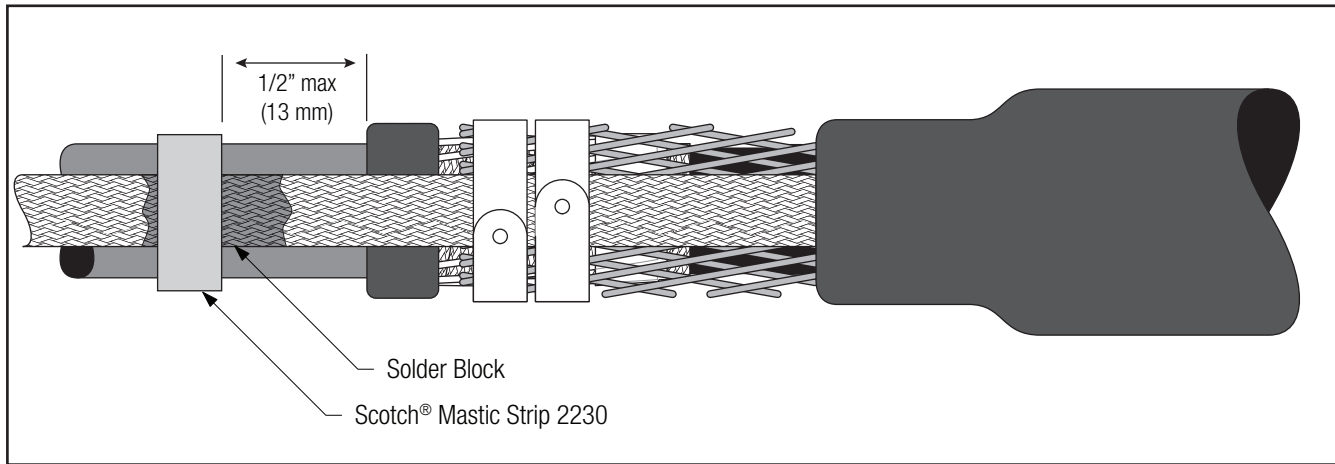

Figure 19
- 5.5 Place another mastic strip over the solder block. Press the mastic strips around the solder block and to the cable jacket (*Figure 19*).